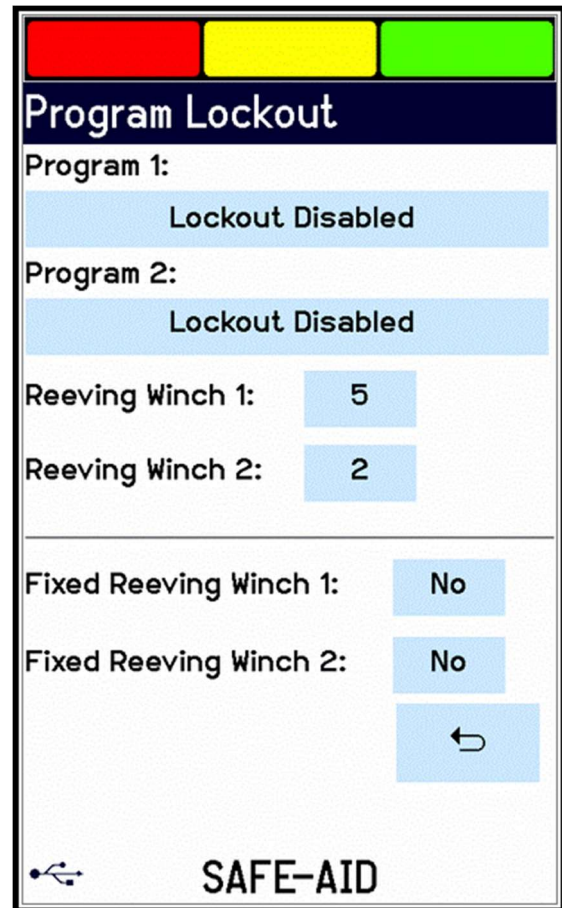

Figure 26
2. Enter the four digit password [- - - -] followed by the **Enter** button, the Program Lockout screen will be displayed (figure 26).